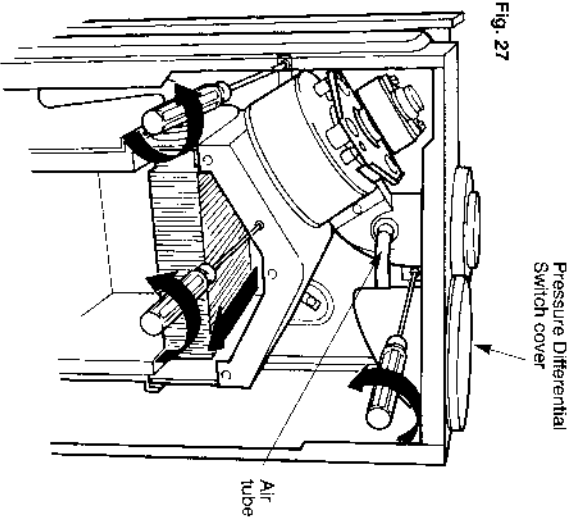

Fig. 27
- 8.9.4 Unscrew maintenance clip securing screws and remove clip (fig 27)
- 8.9.6 Remove 3 flue hood retaining screws (fig 27)
Refer to fig 27